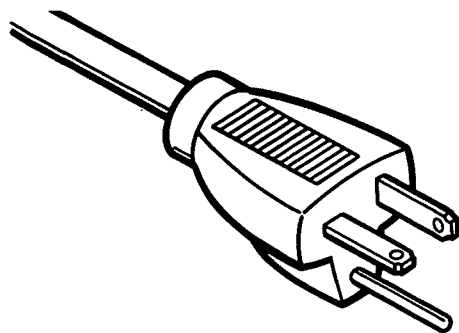

Figure 4. Electrical Plug
- D. **Electrical Connection.** This unit must be connected (plugged in) to a properly grounded, 20 amp receptacle. The electrical cord furnished as part of the freezer has a three prong grounding type plug (Fig. 4).